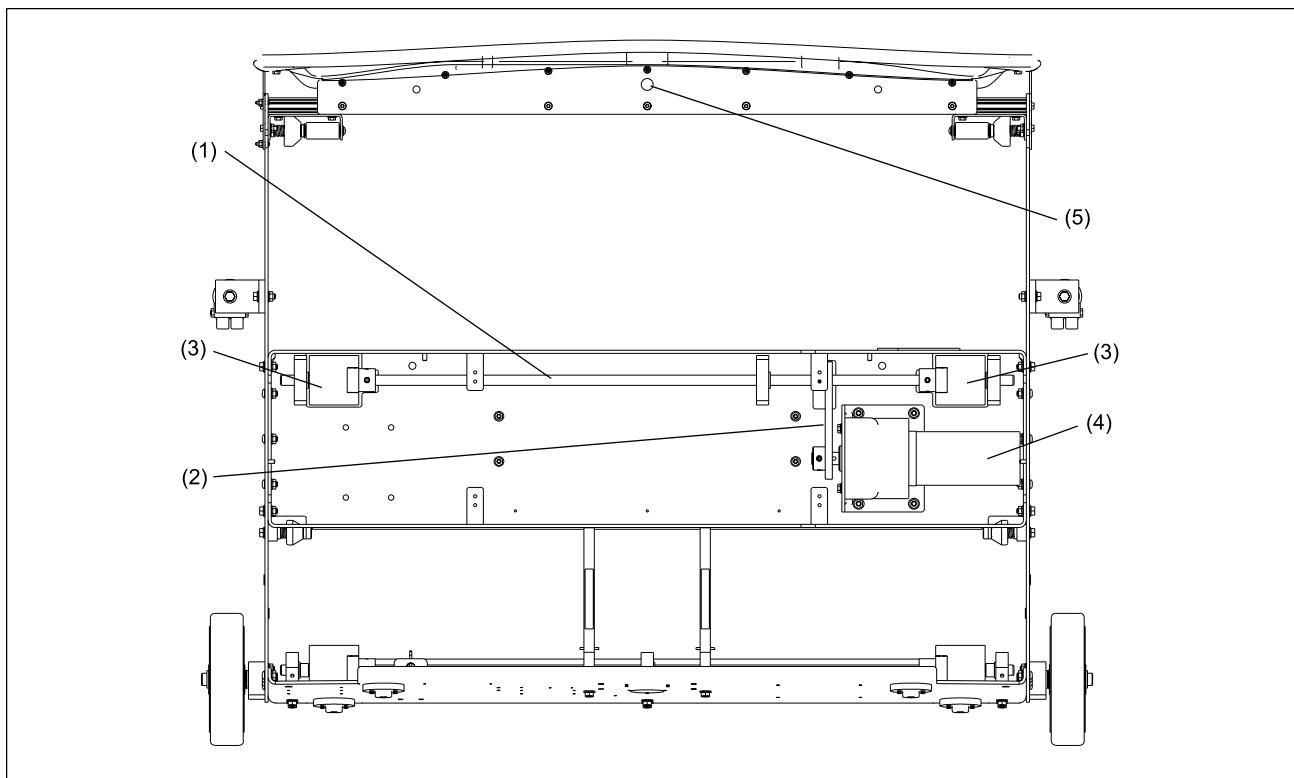

Figure 6-6. Traction Drive System
1. The machine travels up and down the lane by means of a traction drive motor connected through a chain to two drive wheels. Refer to Figure 6-6..